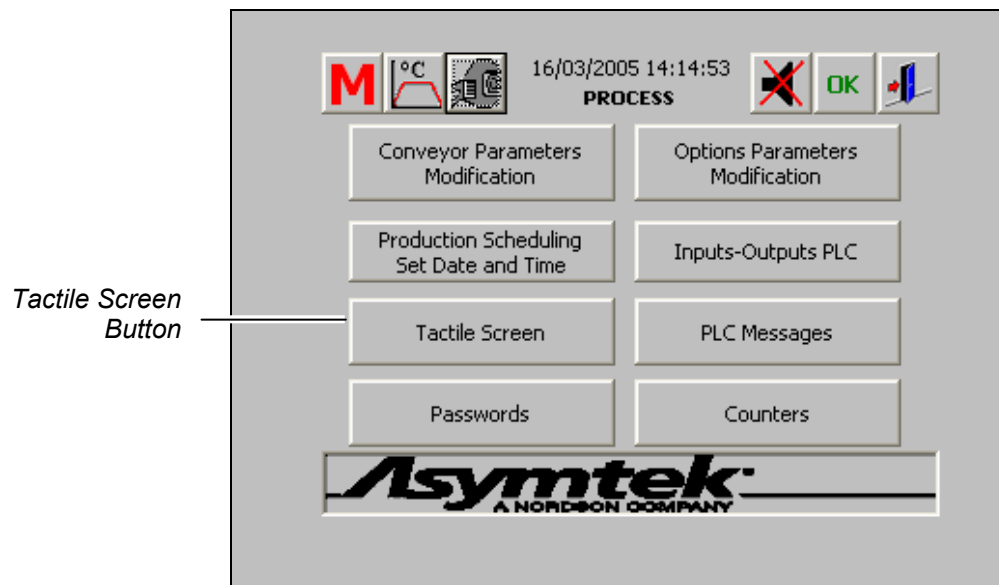

Figure 6-38 Control Menu – Tactile Screen Button
1. To adjust the Tactile Screen Maintenance, from the Control Menu click on the **Tactile Screen** button (Figure 6-38).